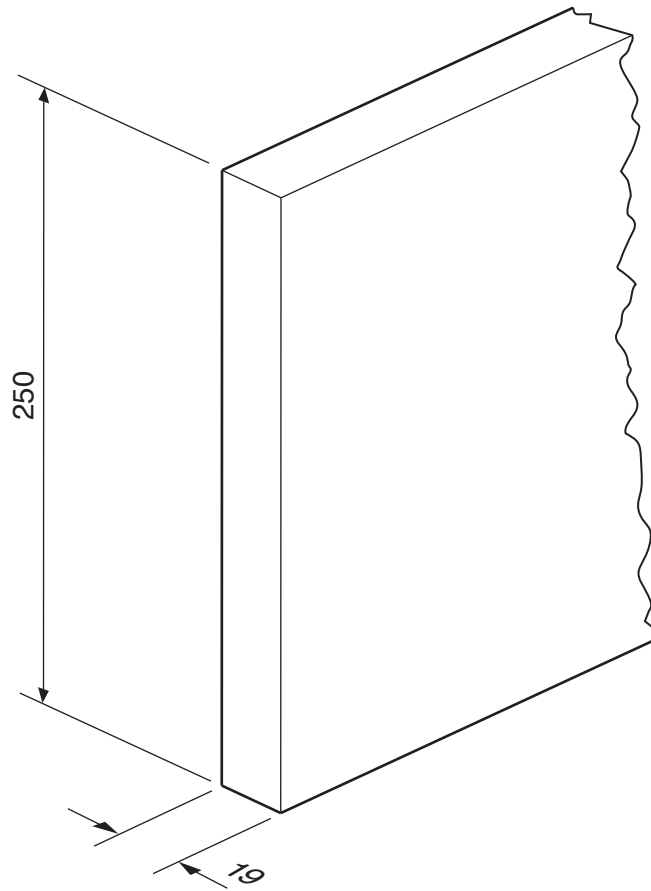

Fig. 22
Fig. 22 shows part of the back of the cycle rack.
- (i) Draw on Fig. 22 to show the positions and spacing of the four dowels. [2]